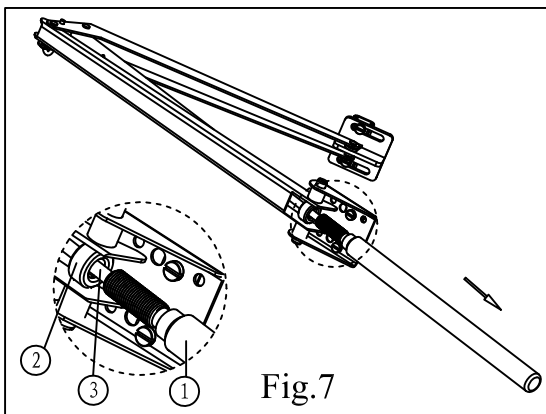

Fig.7
5. Unscrew the cylinder(1) from the cylinder housing(2), but do not completely remove the cylinder.(The piston rod (3) and push rod (6) shall remain assembled). See fig.7.